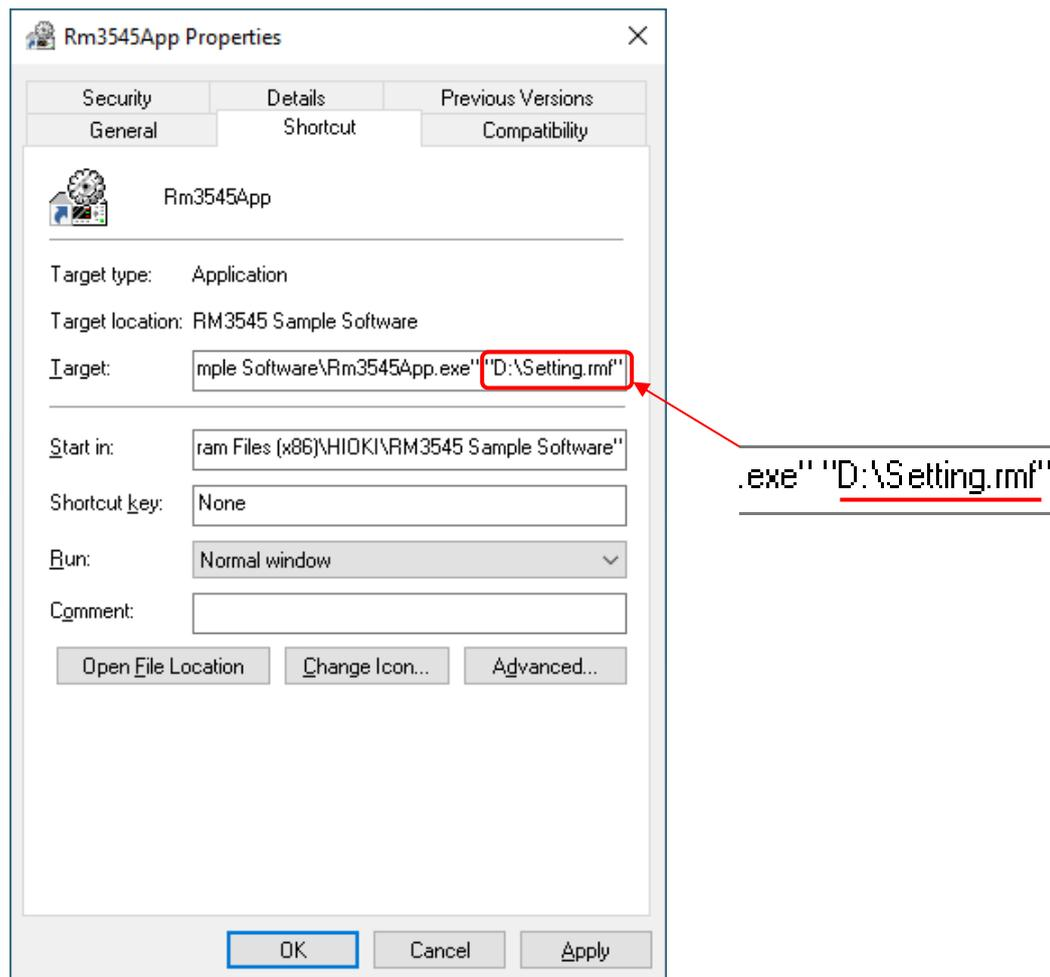

Figure 3-1
3. After the link, insert a space, enter the full path to the settings file, and click the "OK" button. (See Figure 3-1.)
In the example shown in Figure 3-1, the file "Setting.rmf" on drive D: has been specified.